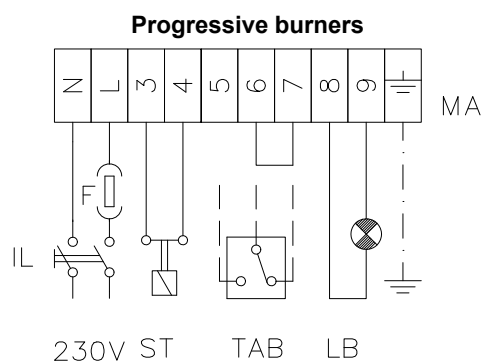
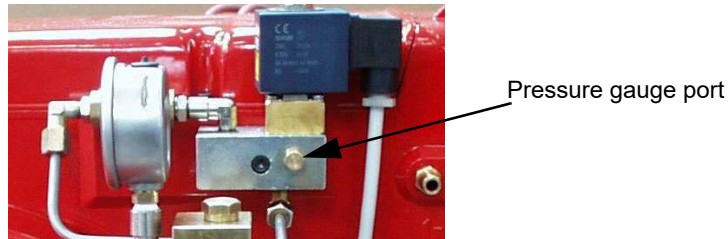
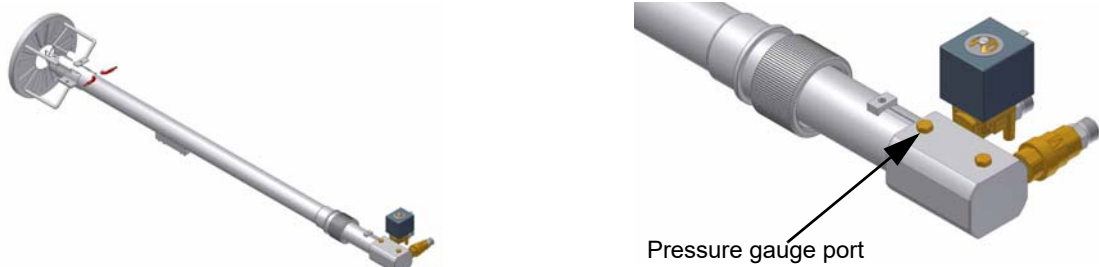

Fig. 10
Fig. 14 - Light oil manifold (PG60)
Fig. 15 - Combustion head with light oil gun (PG70 - PG81)
- 9 the nozzle supply pressure is already factory-set and must not be changed. Only if necessary, adjust the supply pressure as follows (see related paragraph); insert a pressure gauge into the port shown on Fig. 14-Fig. 15 and act on the pump adjusting screw **VR** (see Fig. 13) as to get the nozzle pressure at 20bar (Bergonzo nozzles - see diagram on Fig. 10).